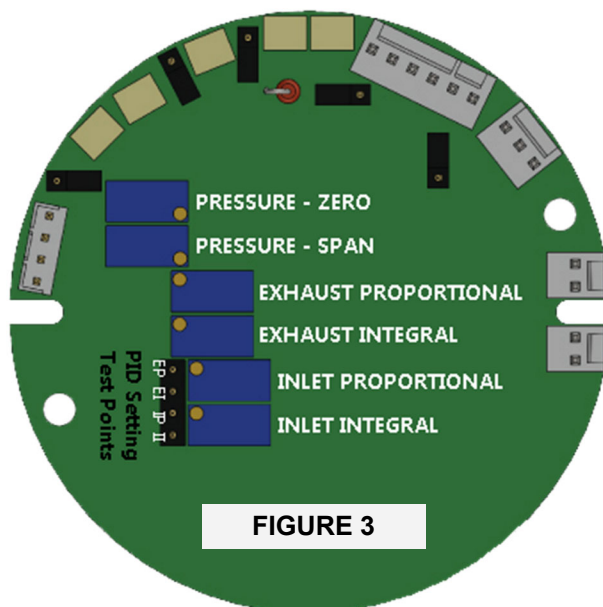

FIGURE 3
2. Figure 3 shows the location of the GX electrical connector. Table 2 identifies the color codes.
4. Locate the calibration access cap on top of the GX valve and locate the ZERO and SPAN adjustment potentiometers (figure 3).
Please refer to figure 3 on the previous page for the location and identification of the GX potentiometers
2. With the other lead, measure and record the resistance from each test point shown in figure 3. This is the resistance between the potentiometer wiper and common and can be used to preset these parameters.
Please refer to figure 3 for the location and identification of the GX potentiometers